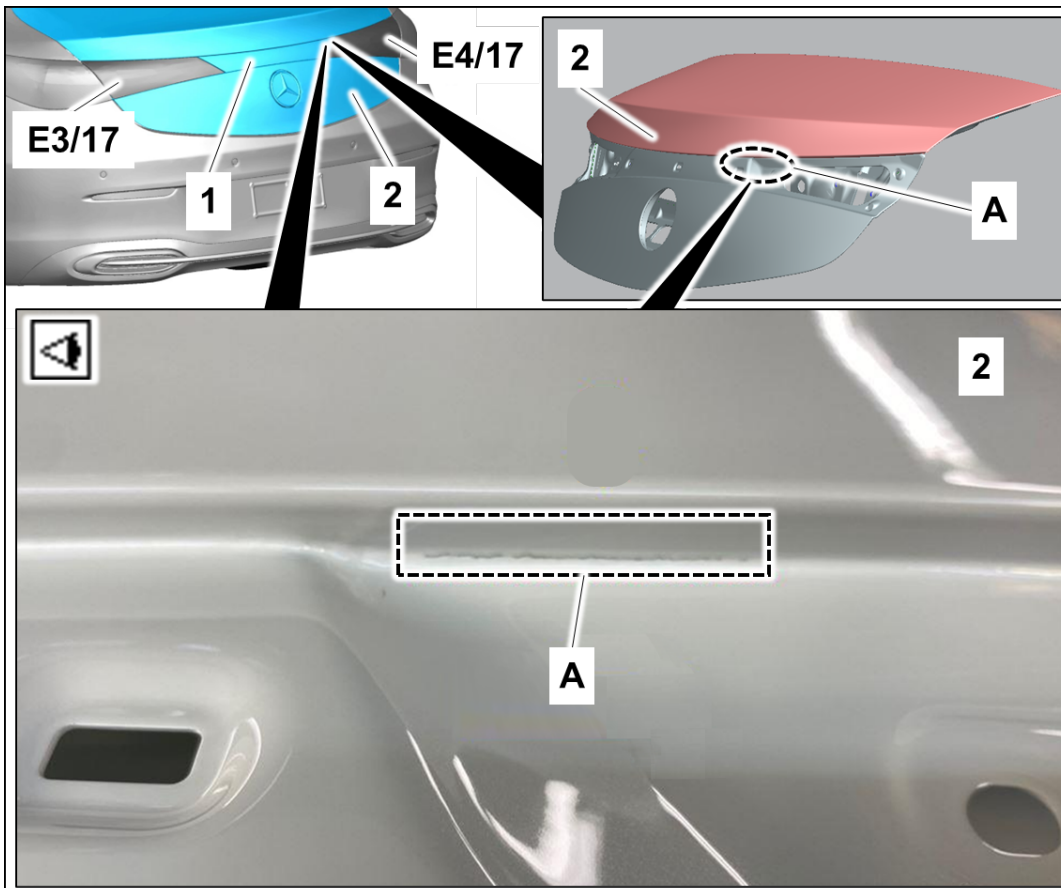

Figure 1
1. Remove left rear inner lamp unit (E3/17, Figure 1) and right rear inner lamp unit (E4/17, Figure 1).
2. Remove the trim element (1, Figure 1) from the trunk lid (2, Figure 1).
i **Installation:** The trim element (1, Figure 1) is destroyed when you remove it and a new one has to be installed in its place.
3. Check the laser solder seam (area A, Figure 1) on the trunk lid (2, Figure 1) for cracks.
- a. If the laser solder seam is cracked (A, Figure 1): Perform the necessary **Work Procedure**.
- b. If the laser solder seam is **not** cracked (A, Figure 1): **End the measure**.
1. Clean the affected area of the laser solder seam (area A, Figure 1) on the trunk lid (2, Figure 1) over a wide area.
2. Apply activator to the affected area of the laser solder seam (area A, Figure 1) on the trunk lid (2, Figure 1).
3. Seal the affected area of the laser solder seam (area A, Figure 1) on the trunk lid (2, Figure 1) with transparent seam seal.
i Seal approx. 2 cm over the entire crack length of the laser solder seam (area A, Figure 1).